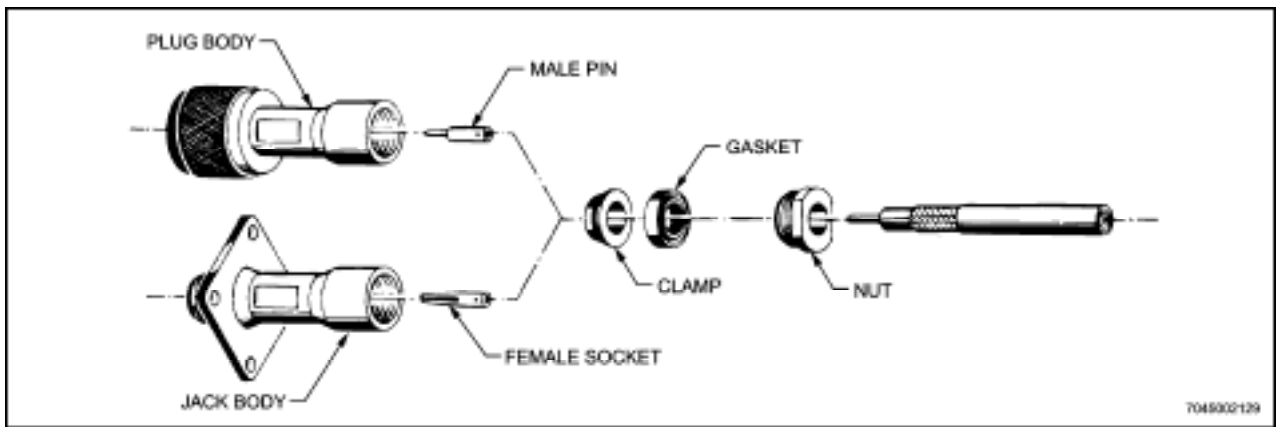

Figure 12-23 Improved HN Connectors - Exploded View
- a. **Improved Version.** Consists of a plug or jack body assembled to coaxial cable with nut, gasket, and braid clamp (see Figure 12-23). Plug UC-59E/U and jack UG-60E/U are typical of this version.
- a. Disassemble nut, grooved gasket and braid clamp from plug or jack body. (See Figure 12-23.)